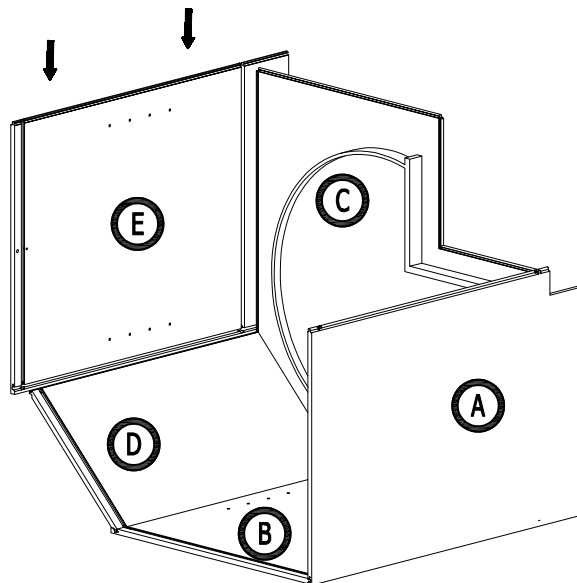

Figure 5
5. Install the back pane-2: Insert the back panel-2 (D) into the groove of the back panel (E), and bottom panel (F). Press down until they click into place. (Figure5)